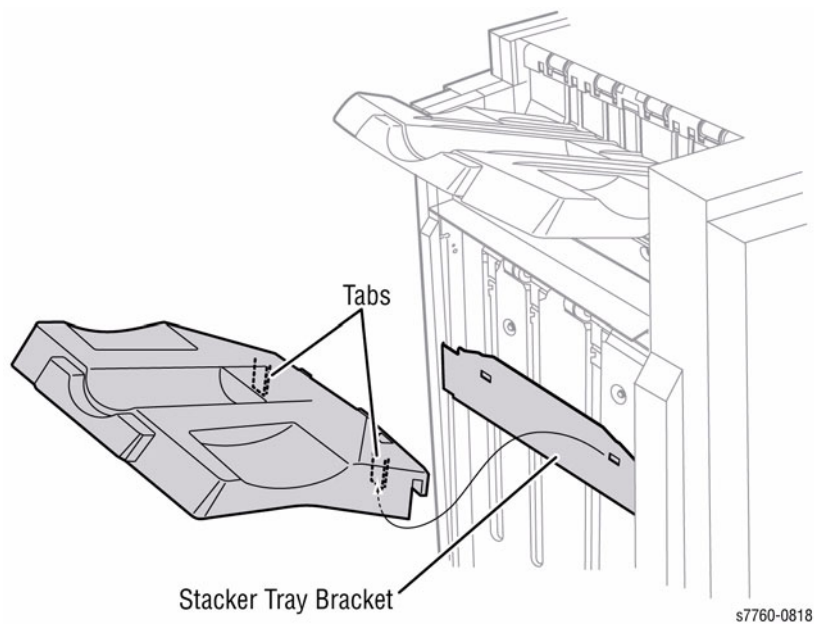

Figure 1 Removing Tray
2. Remove the Tray by releasing the 2 Tabs on the Tray from the Bracket (Figure 1). Remove the Stacker Tray Bracket.